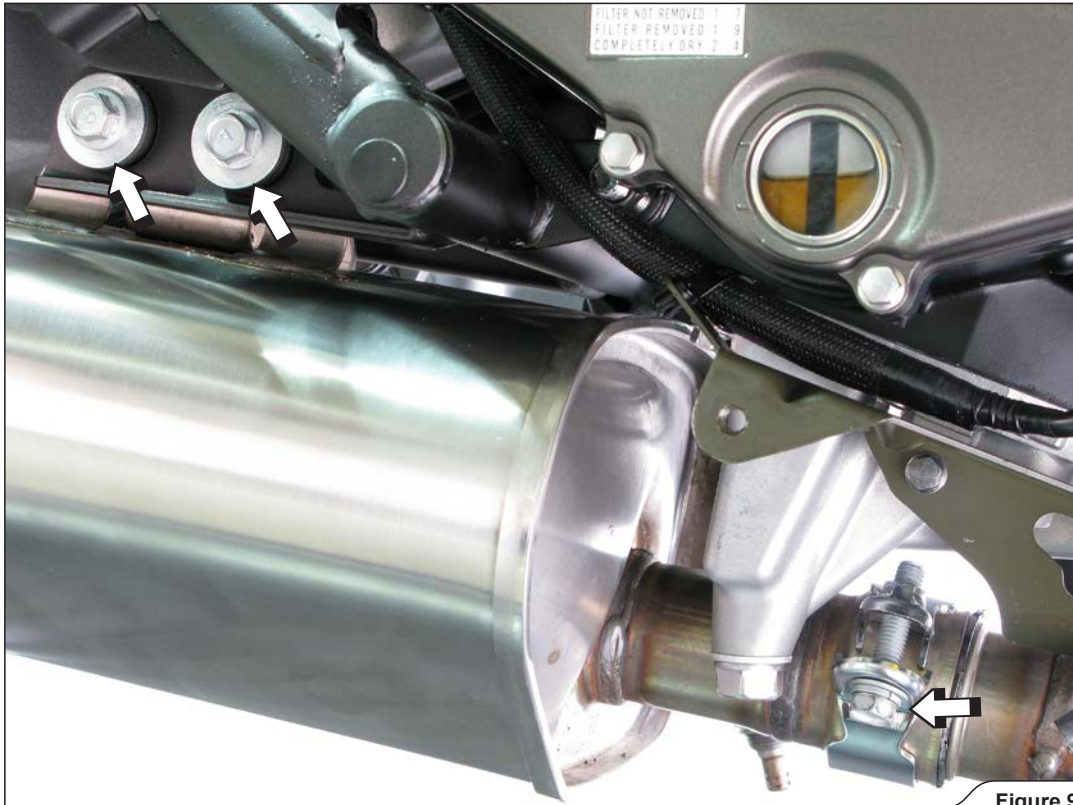
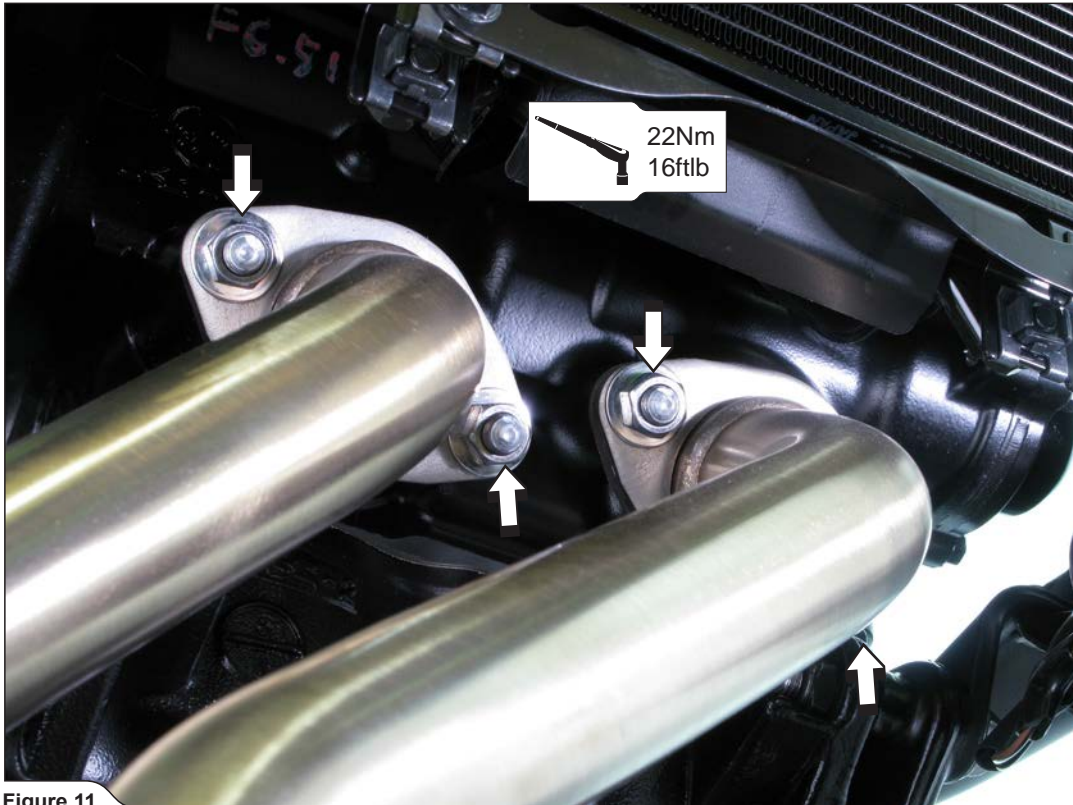

Figure 9
Figure 10
8. Unscrew the marked bolts from the muffler hanging bracket. Unscrew the metal clamp at the muffler link pipe-collector connection and remove the muffler (**Figure 9**). Remove the marked metal collars and rubber dampers (**Figure 10**).